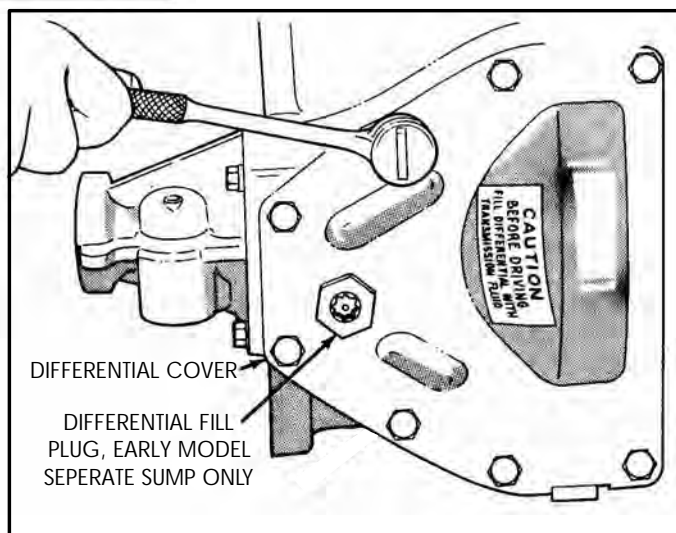

Figure 136
20. Remove the differential cover bolts, as shown in Figure 136.